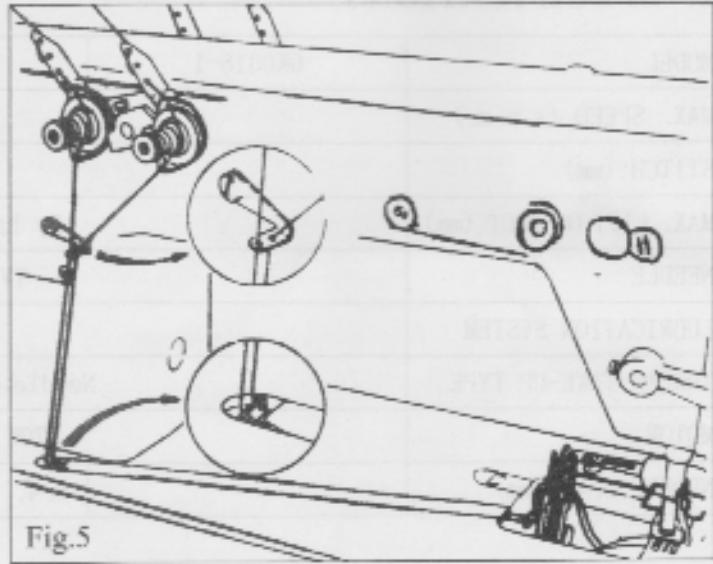

Fig.5
6. THREADING BOBBIN THREAD (Figs.5,6)
To make bobbin thread go through in the order as shown in(Figs. 5,6):